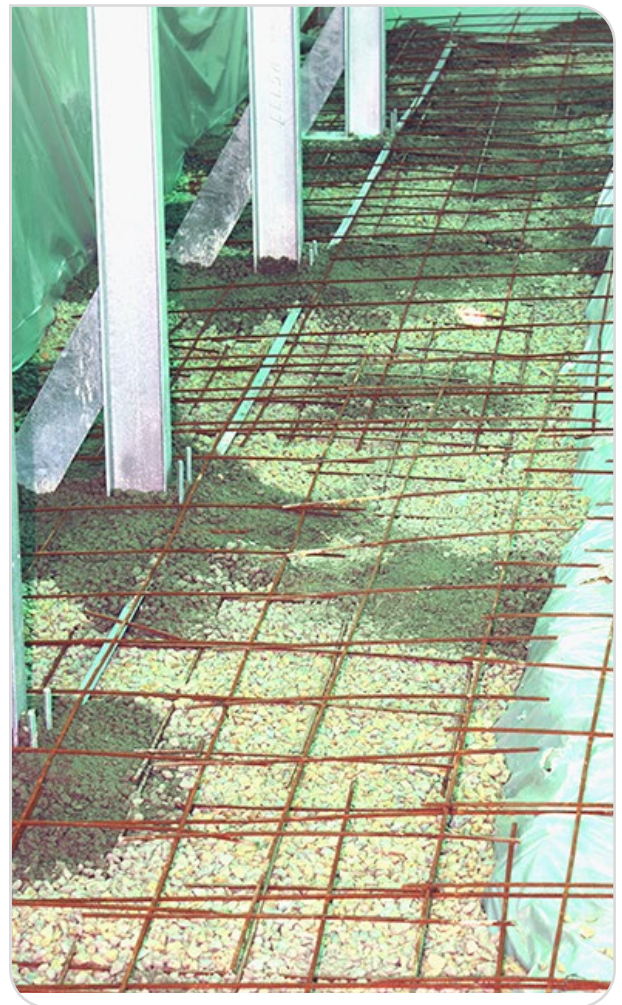

Figure 10 – Trimming around the posts
- ❗ Encase the base of the metal posts with a small amount of concrete before pouring the rest of the slab, this will help prevent deformation of the metallic structure (*Figure 10*).
Once laid, the metal trellis should cover the whole surface (lay the trellis such that it is set 3 to 5 cm back from the edge around the entire periphery). Some cutting around the posts will be necessary (*Figure 10*). Bars should be allowed to overlap and should be connected together.